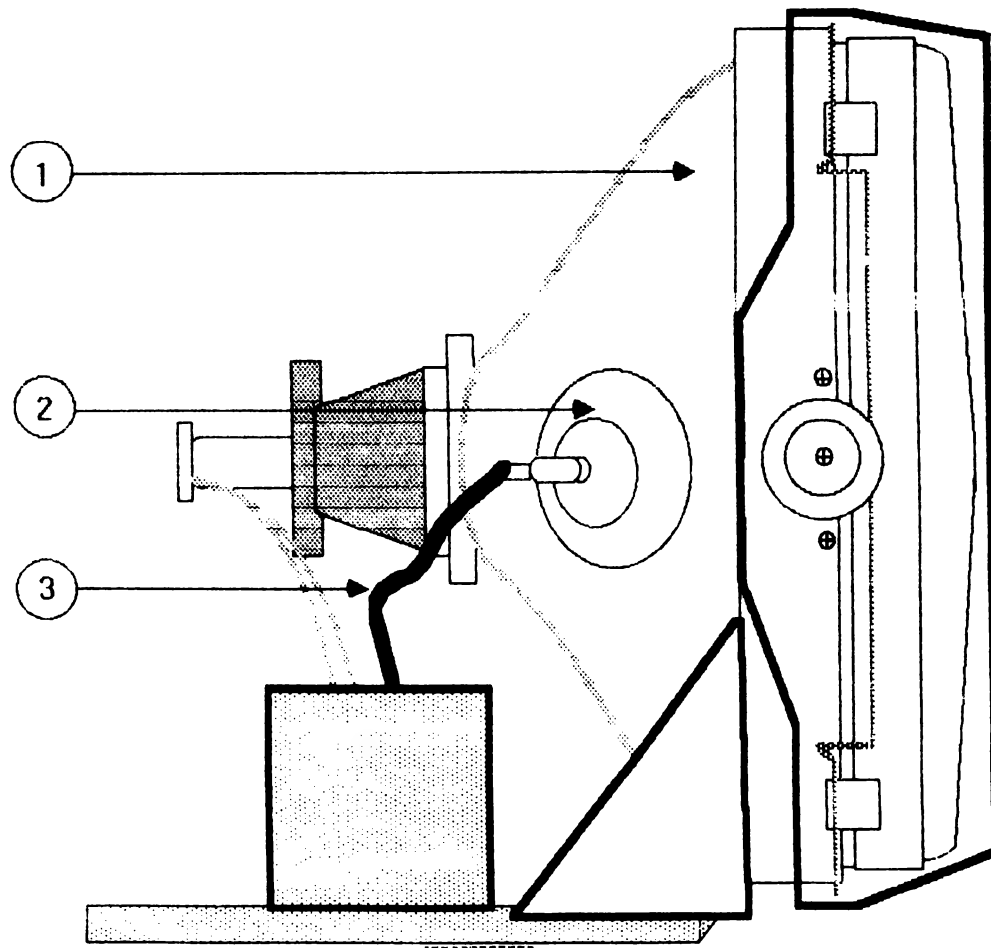

FIGURE 11
**CAUTION: YOU WILL BE WORKING WITH A LIVE HIGH VOLTAGE PICTURE TUBE. HIGH VOLTAGE IS PRESENT ON THE ANODE OF THE PICTURE TUBE, THE ANODE CAP, AND ANODE LEAD, (SEE FIGURE 11, #1, 2, AND 3, RESPECTIVELY). DO NOT TOUCH THE TUBE, ANODE CAP, OR ANODE LEAD: EXTREME SHOCK CAN OCCUR. DO NOT TOUCH OR HOLD ON TO THE CHASSIS WITH THE OTHER HAND -- KEEP IT BEHIND YOUR BACK OR IN YOUR POCKET WHEN MAKING THE ADJUSTMENTS.**